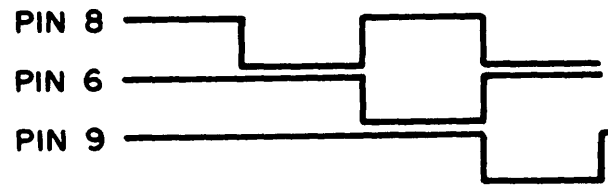

Figure 4-3. Pins 6, 8 and 9 Waveforms
*c.* Pins 8, 6, 9 should produce the complement (refer to fig. 4-3).